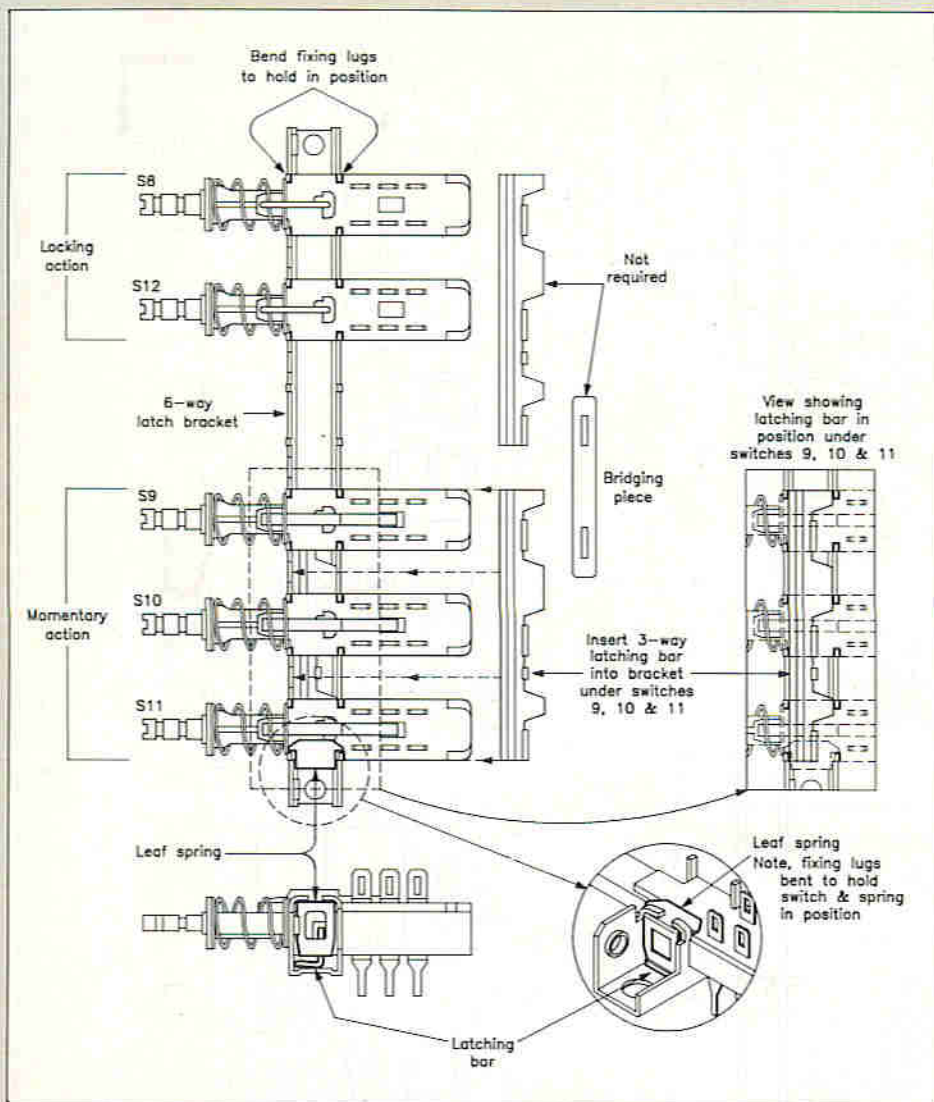

Figure 7. 5-Way Switch Assembly.
- 5) With the two tapped M3 fixing holes of the 6 way latch bracket facing forward, install two locking action switches at the S8 and S12 positions, see Figure 7.
- 6) DISCARD one of the 3 way latching bars and the bridging piece, see Figure 7.
- 7) Place the other 3 way latching bar inside the 6 way latch bracket at the S9, 10 and 11 positions, see Figure 7.
- 8) Next, install the switches, see Figure 7.
- 9) Position the leaf spring at the end switch S11 and secure it by bending down the two fixing lugs, see Figure 7.